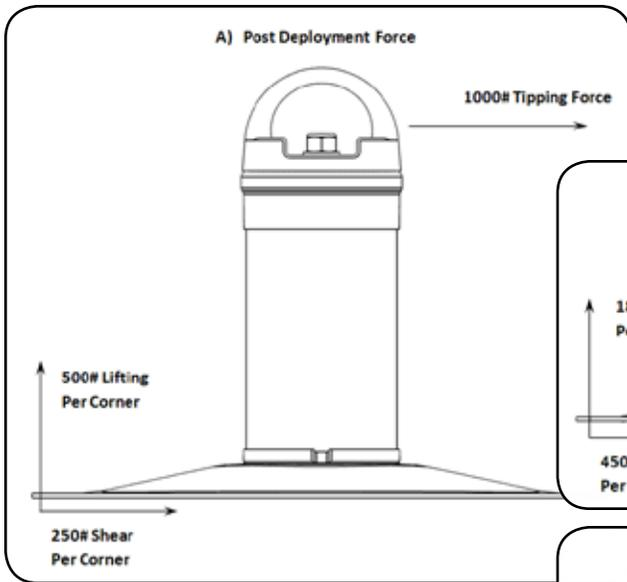

Fig. 12b
- For greater understanding, Figures 12b, 12c and 12d demonstrate how the roof anchor post reacts when exposed to fall forces, while Figure 12e shows the relationship of tensile strength required to actual tensile strength experienced when the energy distribution system within the roof anchor post deploys and the tip-over action occurs. These figures are for reference only and should not be used to determine Hardware Strength Requirements.